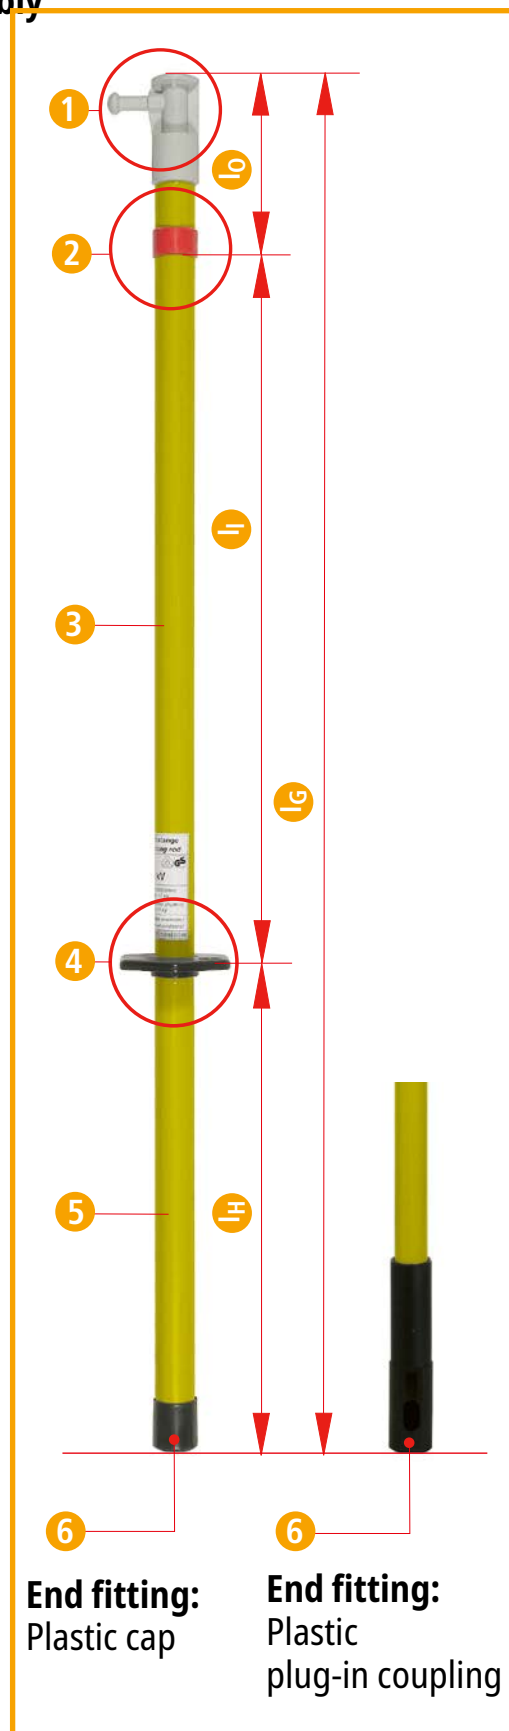
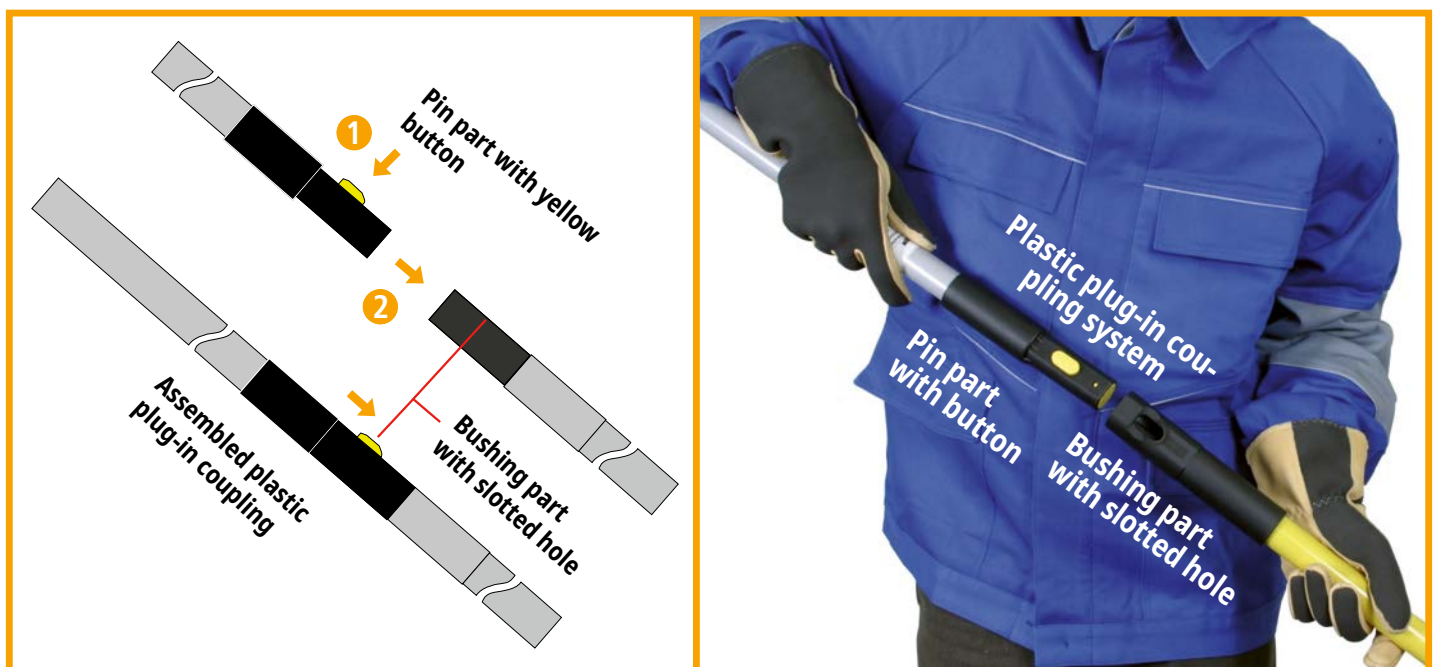

Figure 4
Figure 5
The SCS ... switching stick consists of a switching stick head ①, red ring ②, insulating element ③, hand guard ④, handle ⑤ and end fitting ⑥ (see Figure 4, page 8).
The SCS 36 STK 1000 switching stick is fitted with a plastic plug-in coupling at the lower end of the end fitting for extending the handle (see Figure 4, page 8 and see Figure 5, page 9).